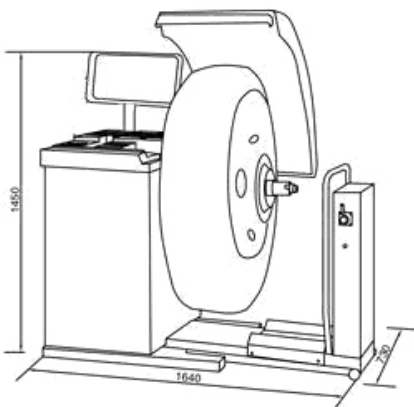

Fig3
- Space for installing is big enough to meet the needs in Fig 3 and ensures each part of the machine to work normally.